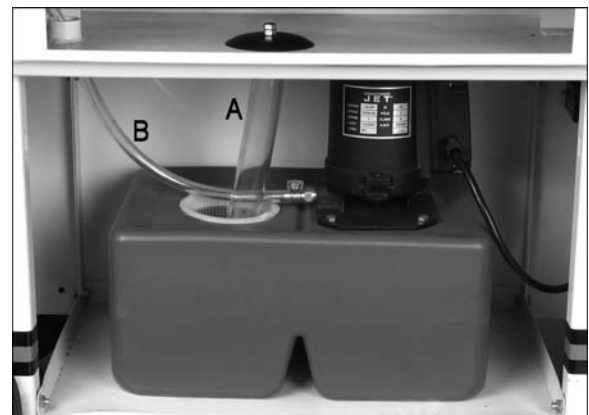

Figure 9
1. Remove coolant return hose (A, Figure 9) from filter cup, and slide tank out of saw base.
4. The coolant supply hose (B, Figure 9) should connect to the taps on the blade guide assemblies.